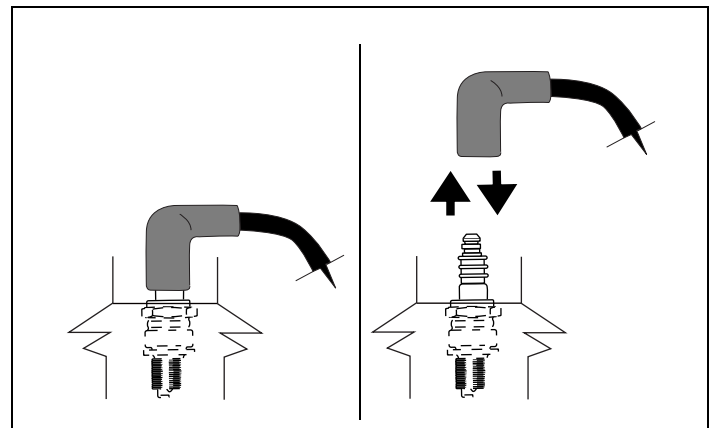

Figure 36. Disconnecting/Connecting Spark Plug
- Disconnect spark plug wire and keep it away from spark plug. See Figure 36.
2. Disconnect spark plug wire and keep it away from spark plug. See "G. Avoid Accidental Starts" instructions on page 3. See Figure 36.
11. Carefully re-connect spark plug wire to spark plug. See Figure 36.